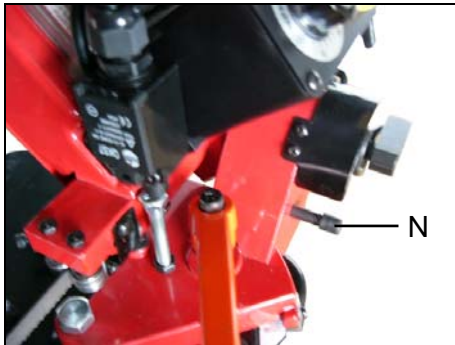

Fig. 11
6. Release the saw bow by pulling out the pin (N) in Fig.11 for cutting the work piece.